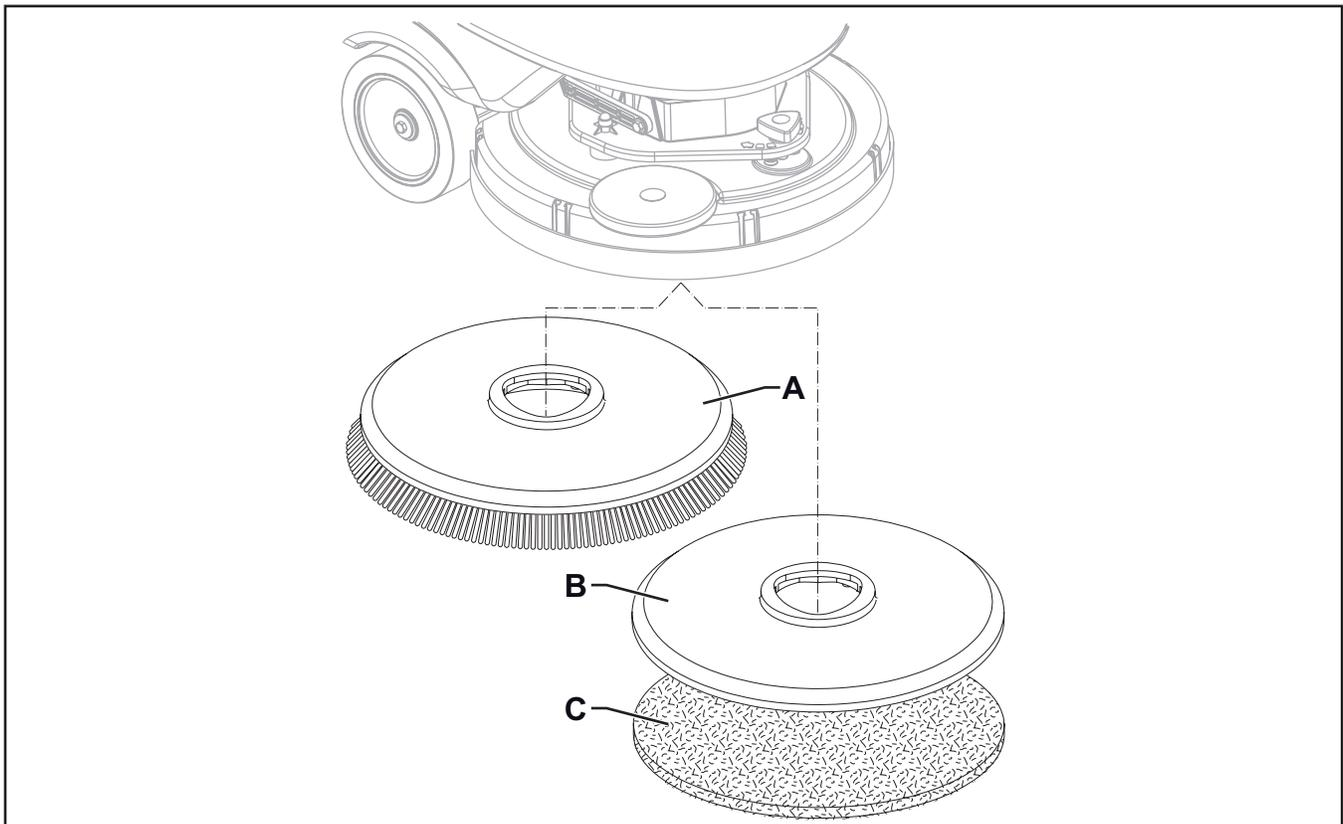

Figure 5
1. According to the kind of cleaning to be performed, the machine can be equipped either with the brush (A) (Figure 5) or the pad-holder (B) with pad (C) together with the appropriate deck.
4. With the brush deck raised, position the brush (A) or pad-holder (B) under the deck.
6. To engage the brush, press the paddle (2), then release it. If necessary, repeat the procedure until the brush is engaged.